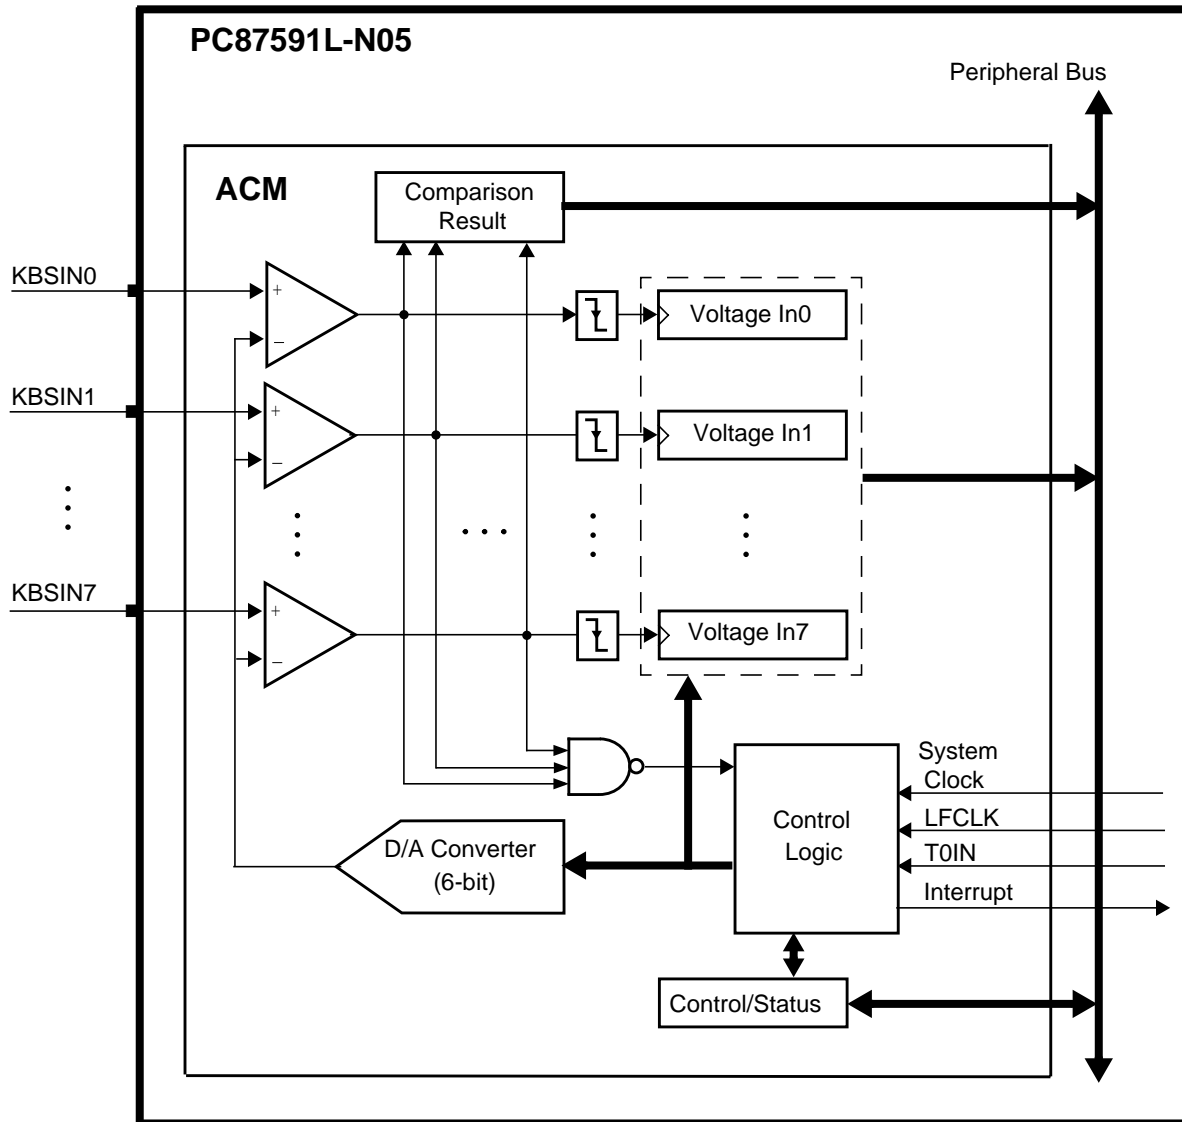

Figure 71. ACM Functional Diagram
Inputs. The ACM has eight analog inputs with a voltage ranging from 0V to V_{CC} (FS), as shown in Figure 71. The voltage level at each input is compared with a reference level, generated by a 6-bit D/A converter.